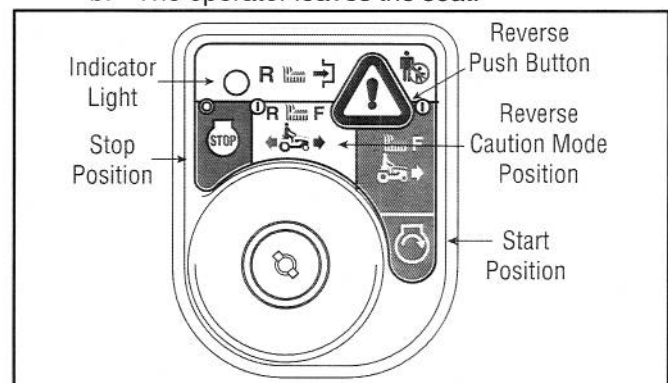

Figure 9
2. Turn the key from the **NORMAL MOWING** (Green) position to the **REVERSE CAUTION MODE** (White) position of the key switch module. See Figure 9.
3. Press the **REVERSE PUSH BUTTON** (Orange, Triangular Button) at the top, right corner of the key switch module. The red indicator light at the top, left corner of the key switch module will be **ON** while activated. See Figure 9.